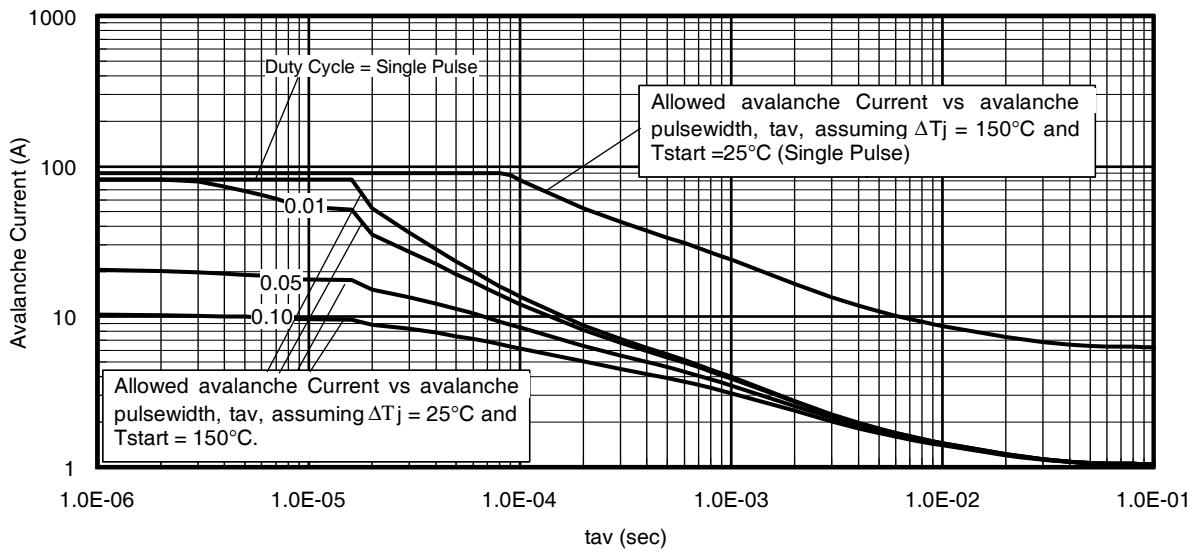

Fig 14. Typical Avalanche Current vs.Pulsewidth
Notes on Repetitive Avalanche Curves , Figures 14, 15 (For further info, see AN-1005 at www.irf.com)
7. ΔT = Allowable rise in junction temperature, not to exceed T_{jmax} (assumed as $25^\circ C$ in Figure 14, 15).